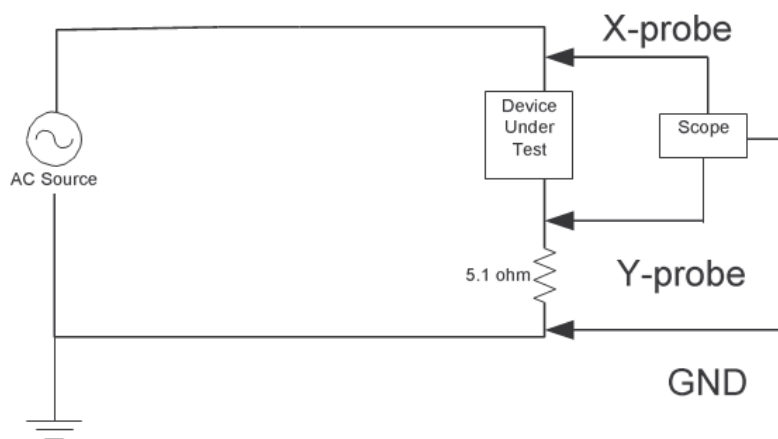

Figure 6-1 Impedance measuring setup
1. For the circuit shown in Figure 6-1, calculate and record the magnitude and phase of the impedance for each of the devices and frequencies shown in Tables 6-1, 6-2 and 6-3. This should be done using the three equations described in the introduction. For these calculations replace the 5.1Ω resistor with a short. Its impedance is so small compared to the device impedance that no significant error will result. It has been included as a current sensing resistor, allowing the display of the load current waveform on the oscilloscope.
1. Construct the circuit shown in Figure 6-1. Place the $1\text{k}\Omega$ resistor in the location labeled Device Under Test.